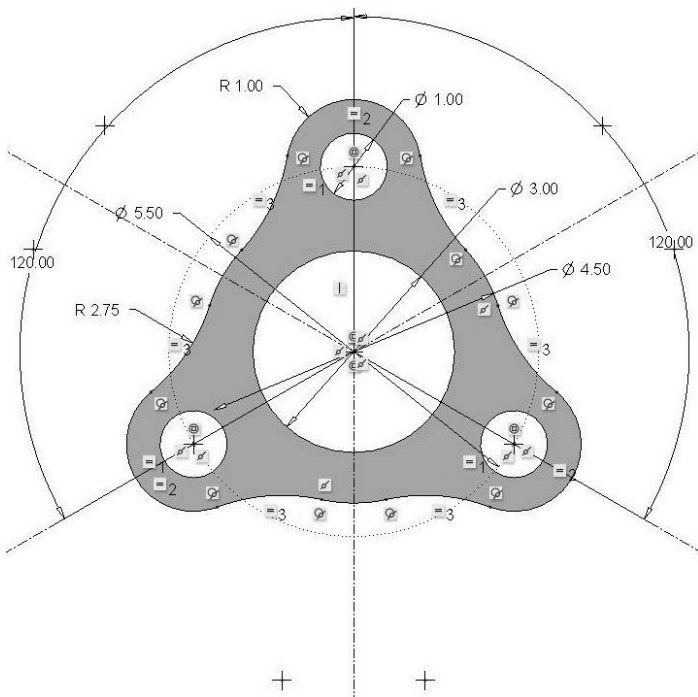

Figure 3-79 Problem 10—Cork Gasket
3.10 Draw the "cork_gasket" (Figure 3-79). **Design Intent**—The three holes need to be on a 5.50-inch bolt circle spaced 120° apart. All boundary arcs are tangent to each other. (Note (=3) on numerous arcs equal 2.75 inches, or half of the 5.50 bolt circle.)